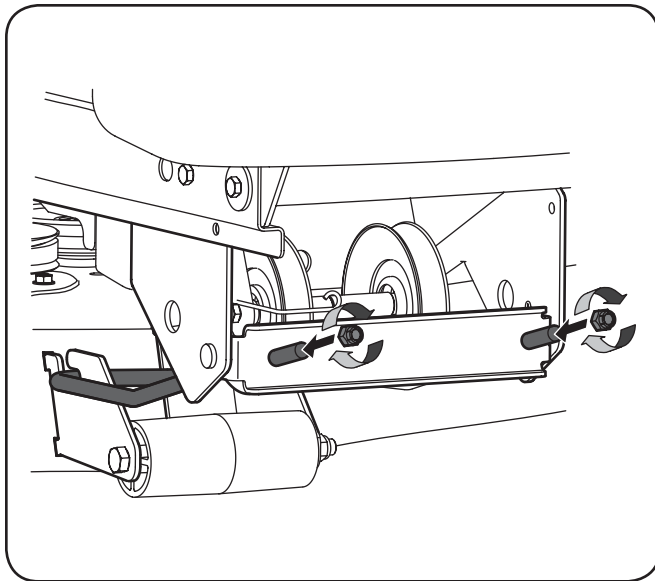

Figure 7-7
7. Insert the ends of the front hanger through the holes in the front hanger bracket and secure with the two lock nuts removed earlier. See Fig. 7-7.